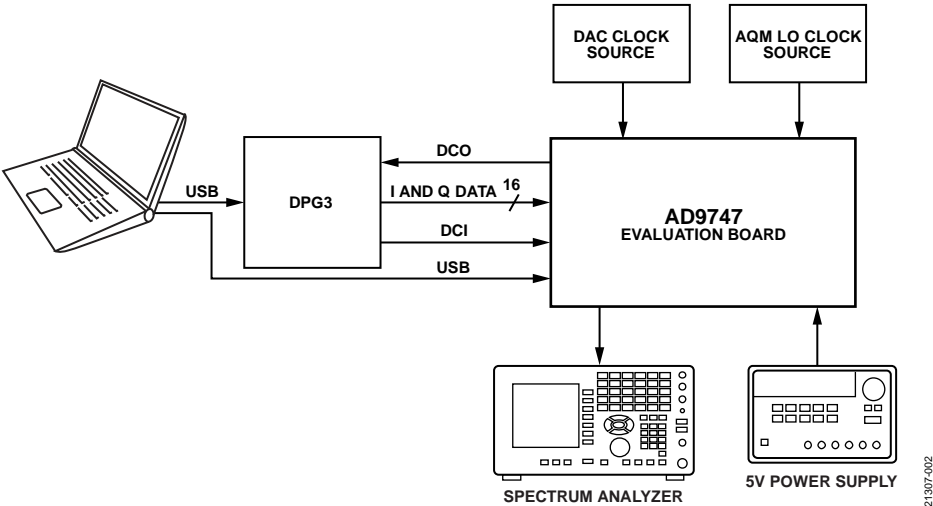

Figure 2. Bench Setup with the DPG3 Board
11. Connect the USB cable to the mini USB, XP2 connector on the AD9743/AD9745/AD9746/AD9747 evaluation board as shown in Figure 2.